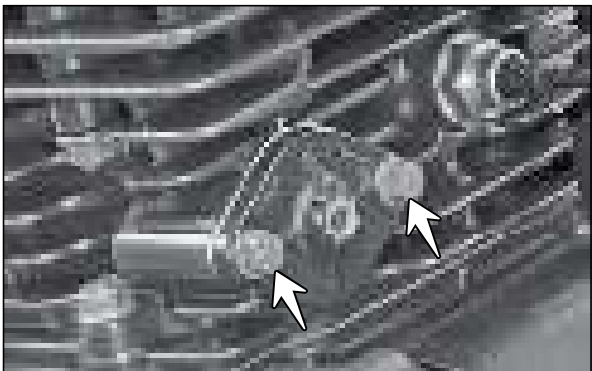

Fig. 3.29
- Remove the hexagonal flange bolts (M6x16 - 2 Nos.) from the adjuster assembly mounting and take out the adjuster assembly along with a gasket. (Fig. 3.29)